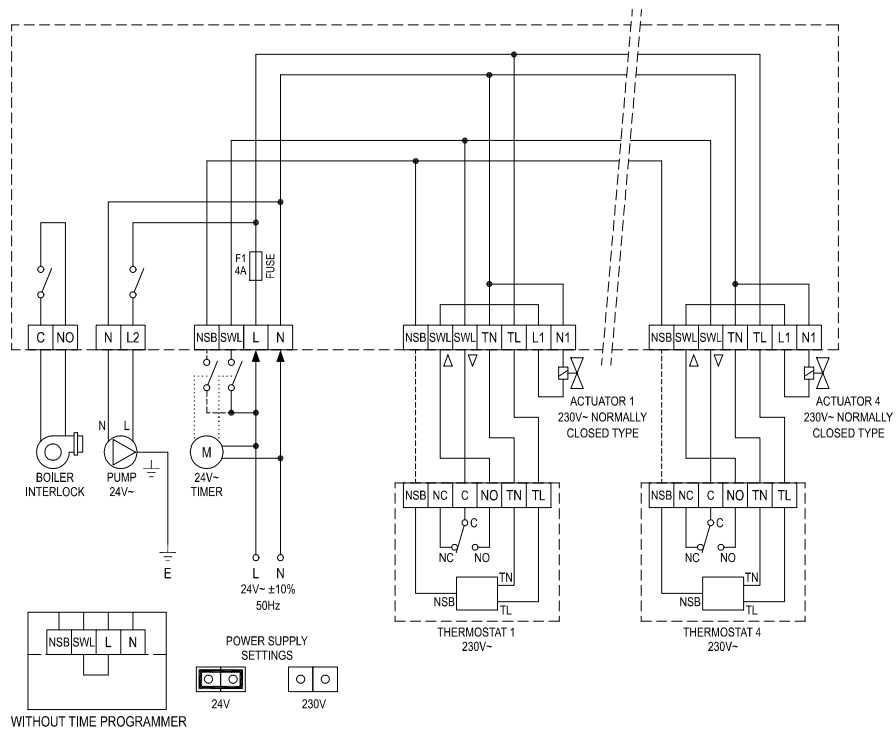

Fig. 6: Internal wiring diagram for 230 V~ power supply
**Please read the following carefully and also consult the wiring diagram, Fig. 6, which shows the connection of the power supply and external components to the wiring centre.**